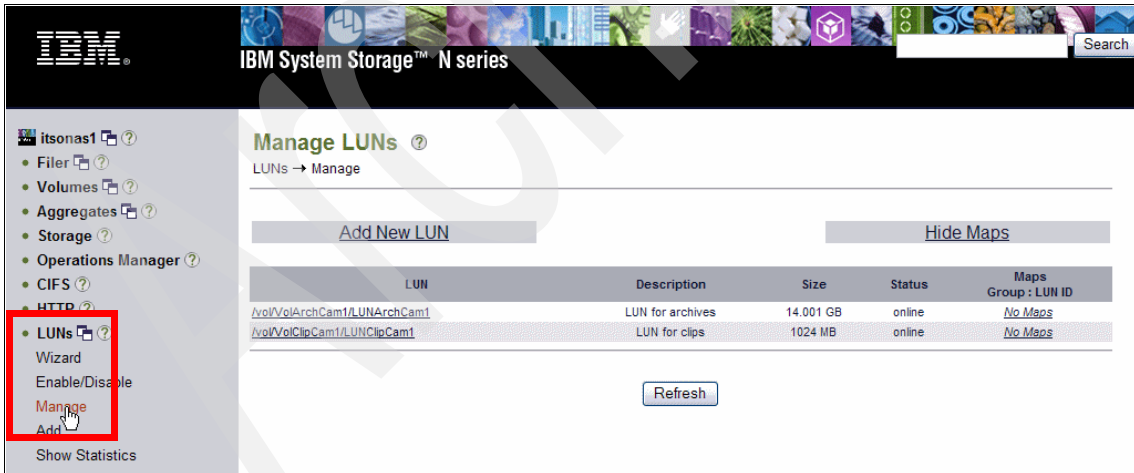

Figure 7-27 LUNs / Manage - Listing of the LUNs
3. Repeat steps 1 and 2 to create the LUN of 1GB for the Clips, LUNClipCam1, in the volume VolClipCam1. Figure 7-27 shows output under **LUNs** → **Manage**, after the second LUN is created.